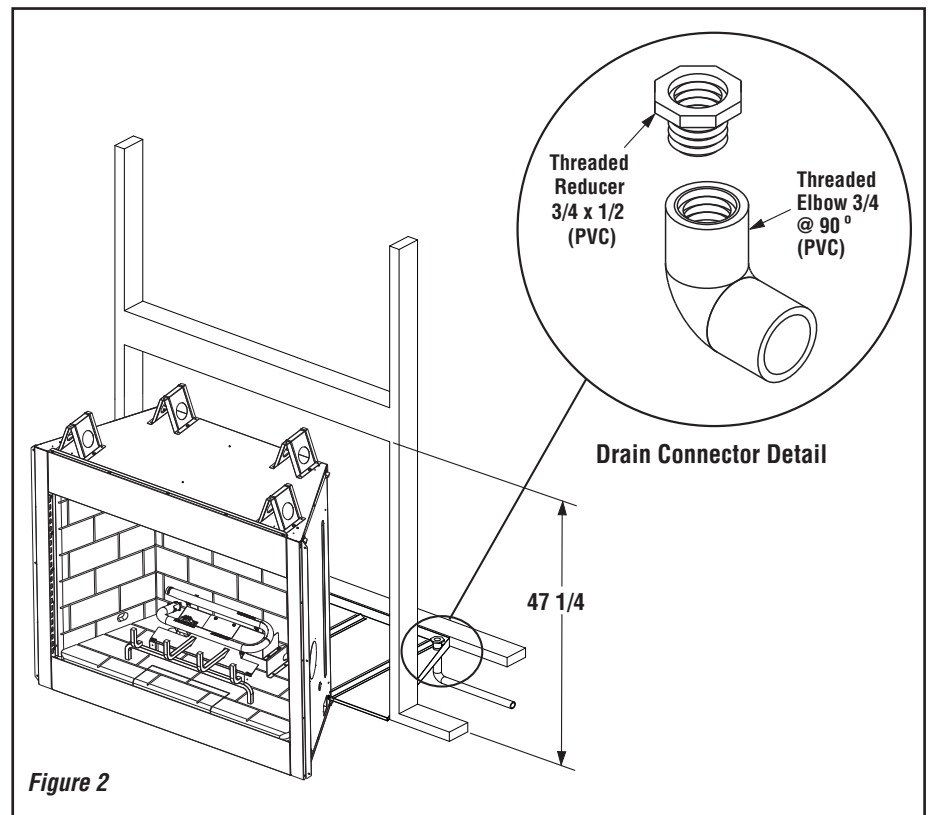

Figure 2
2. Waterproof the fireplace or install the optional drip pan (see *Waterproofing The Fireplace* and **Figure 2** on **Page 5**).
Step 1. Seal all joints, gaps and corners around the bottom of the drain pan before positioning the fireplace on its location (Figure 2).